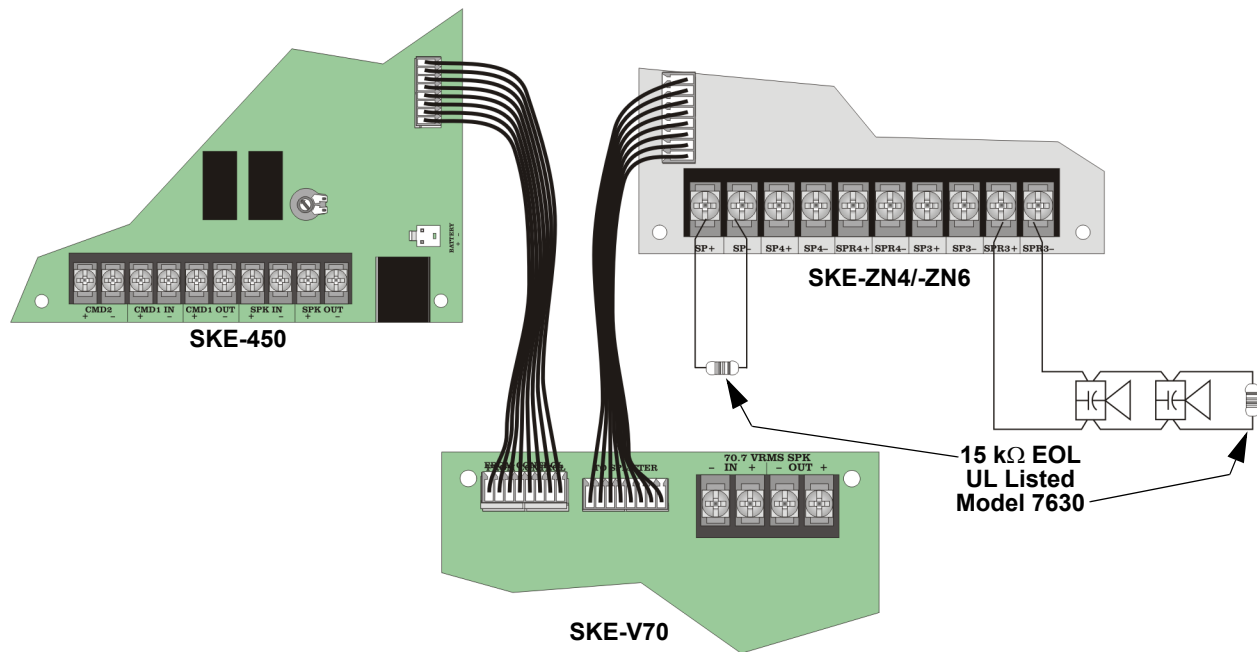

Figure 8-6 Wire Harness Connections for Splitter and Main Control
1. Connect one harness from the main control to the SKE-V70 connector marked “FROM CONTROL”. See Figure 8-6.
2. Connect the other harness from the SKE-V70 connector marked “TO SPLITTER” to the connector on the 4 or 6 zone splitter as shown in Figure 8-6.